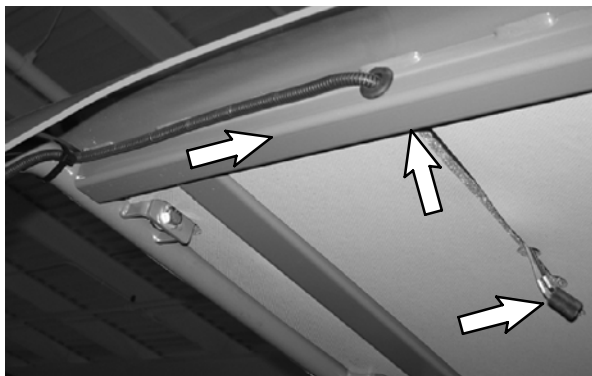
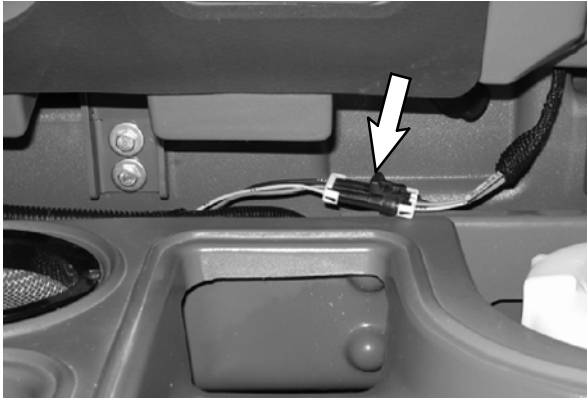
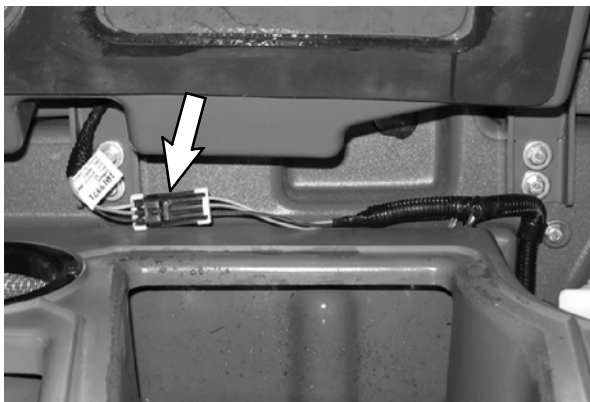
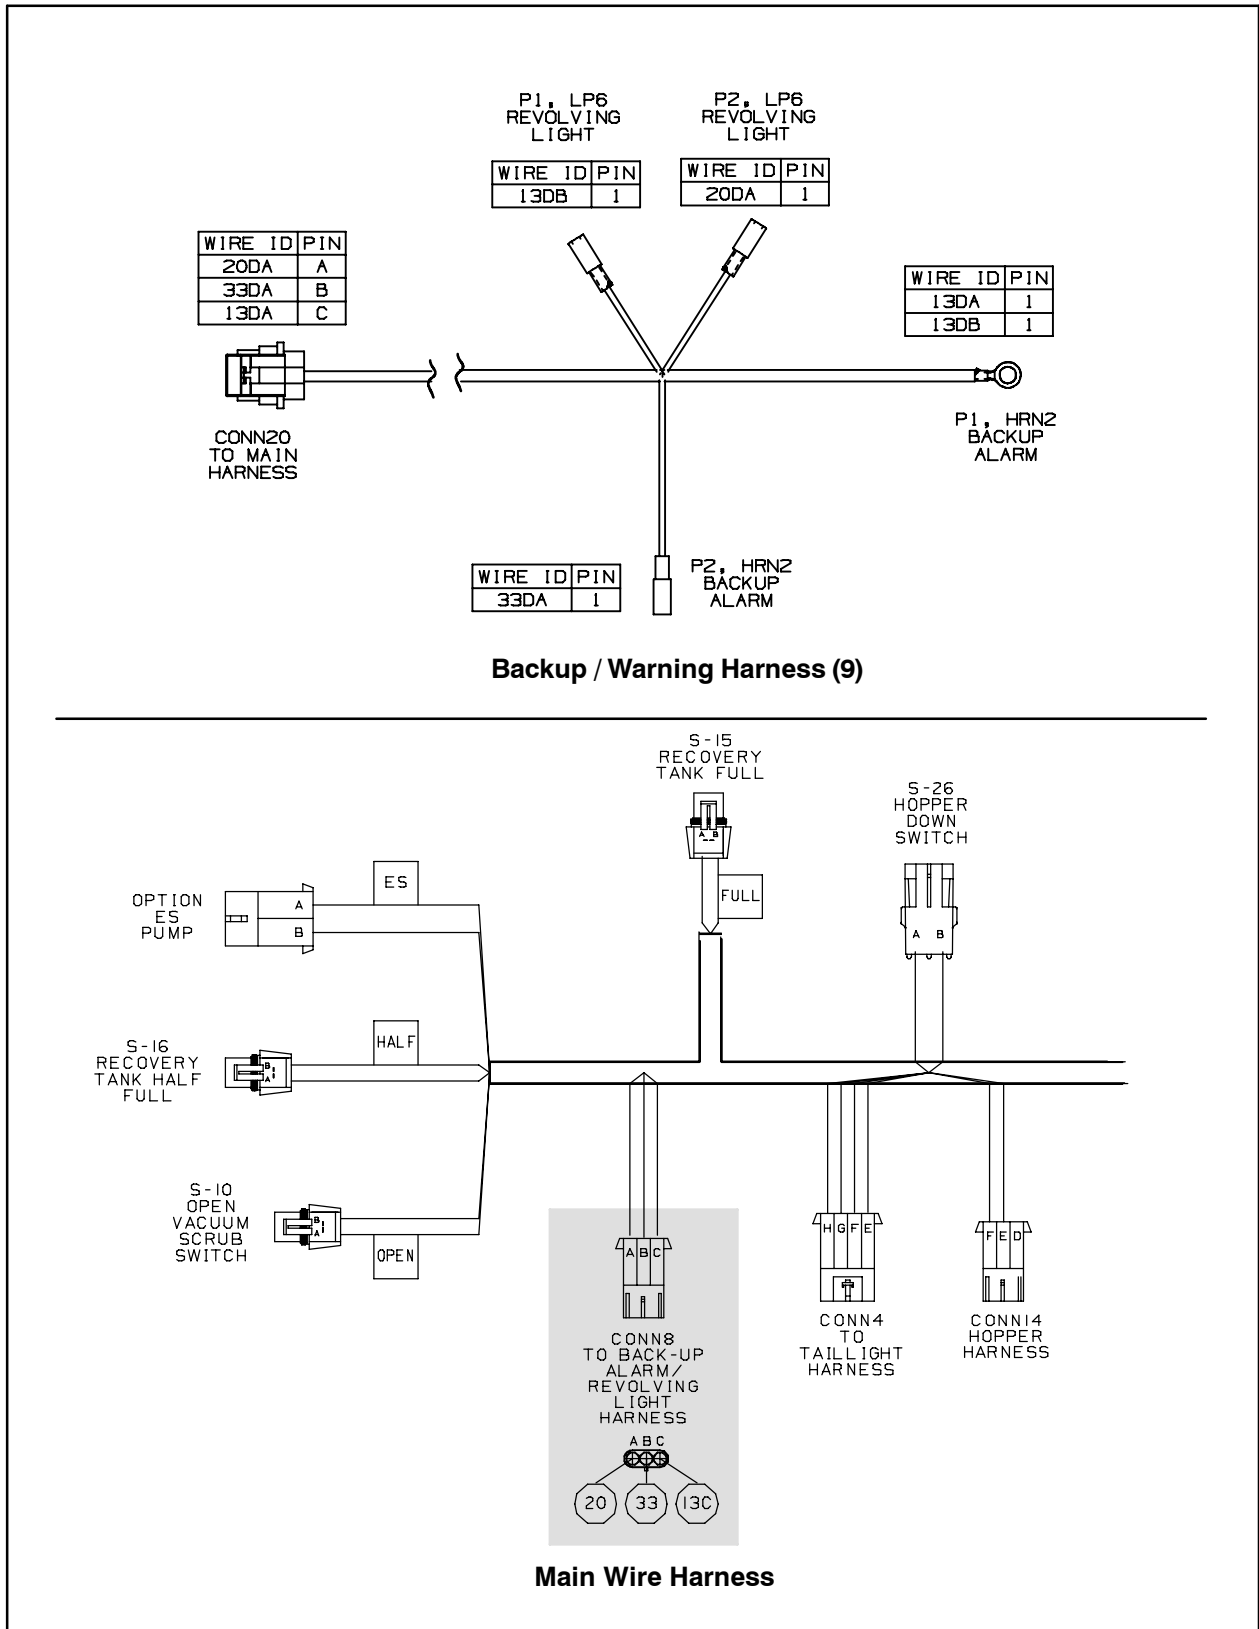

FIG. 6
FIG. 10 - M20 Harness Location
FIG. 11 - T20 Harness Location
FIG. 14
4. Connect the warning/overhead harness (9) to the main wire harness, route the warning/overhead harness through the grommet (10) installed in the operator compartment panel, up along leg of the overhead guard, and to the rear cross member of the overhead guard. Refer to Fig. 9 and Fig. 10.
7. Route the warning/OHG harness (9) through the notch in the overhead guard insulation and connect the harness to the strobe light (13). Refer to Fig. 6 and Fig. 10.
11. Open the recovery tank cover and pull the main wire harness backup alarm connector from between the recovery and solution tank. Connect the warning/backup harness (8) to the main wire harness. Refer to Fig. 10 or Fig. 11, and Fig. 14.
13. Connect the wires from the backup alarm (1) to the warning/ backup harness (8). Refer to Fig. 14.
14. Neatly bundle the flashing light wires on the warning/ backup harness (8) and secure them to the harness with either cable ties or electrical tape.